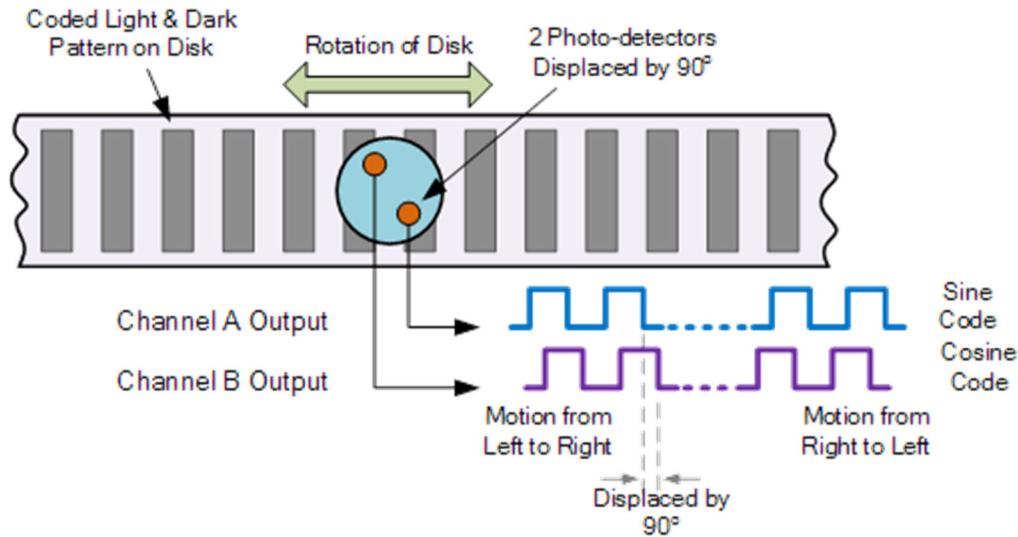
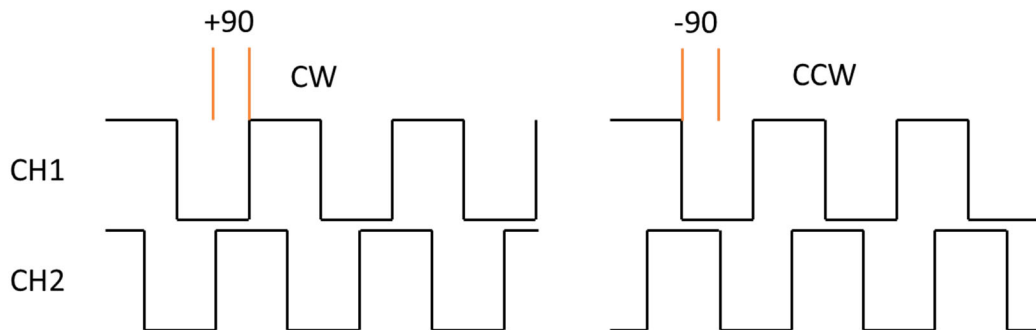

Figure 2. Quadrature Signal from a 2-Channel Encoder
Figure 3. Example output of encoders going clockwise (CW) or counter-clockwise (CCW).
An encoder with a single detector would output a digital signal that looks like a square wave that jumps between HIGH and LOW as the stripes go by the detector. By counting pulses of the square wave, the relative or incremental angular position of the encoder can be tracked. However, in order to know whether to count up or down, there needs to be a way to detect which direction the disk is rotating. In order to accomplish this, a second detector is typically offset from the first detector, such that there is a 90° phase shift between the square wave from the two detectors, as illustrated in Figure 2. *Quadrature Signal from a 2-Channel Encoder*. Depending on whether the encoder is rotating clockwise (CW) or counterclockwise (CCW), the Channel 1/A signal will be leading or lagging behind the Channel 2/B signal by a quarter cycle as shown in Figure 3. By **decoding** these two signals, we can count up/down depending on whether the encoder is rotating CW or CCW.